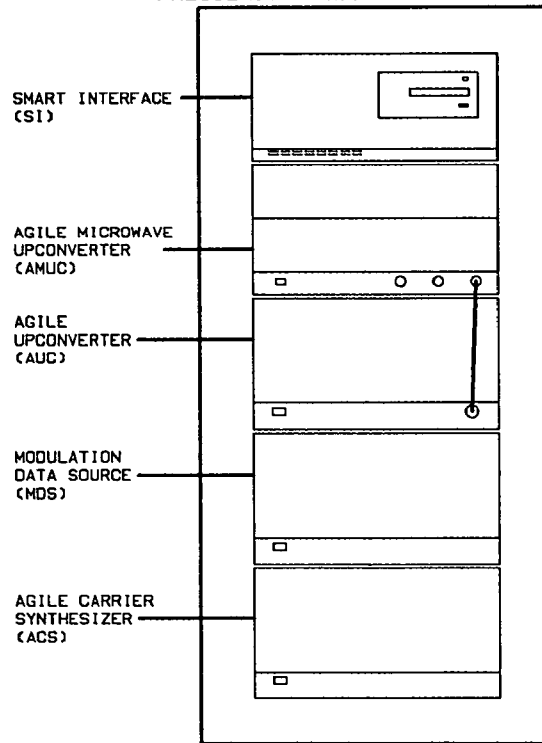

Figure B-5. HP FASS Model 21 Front Panel
- HP FASS Model 21 system figures B-5 and B-6.